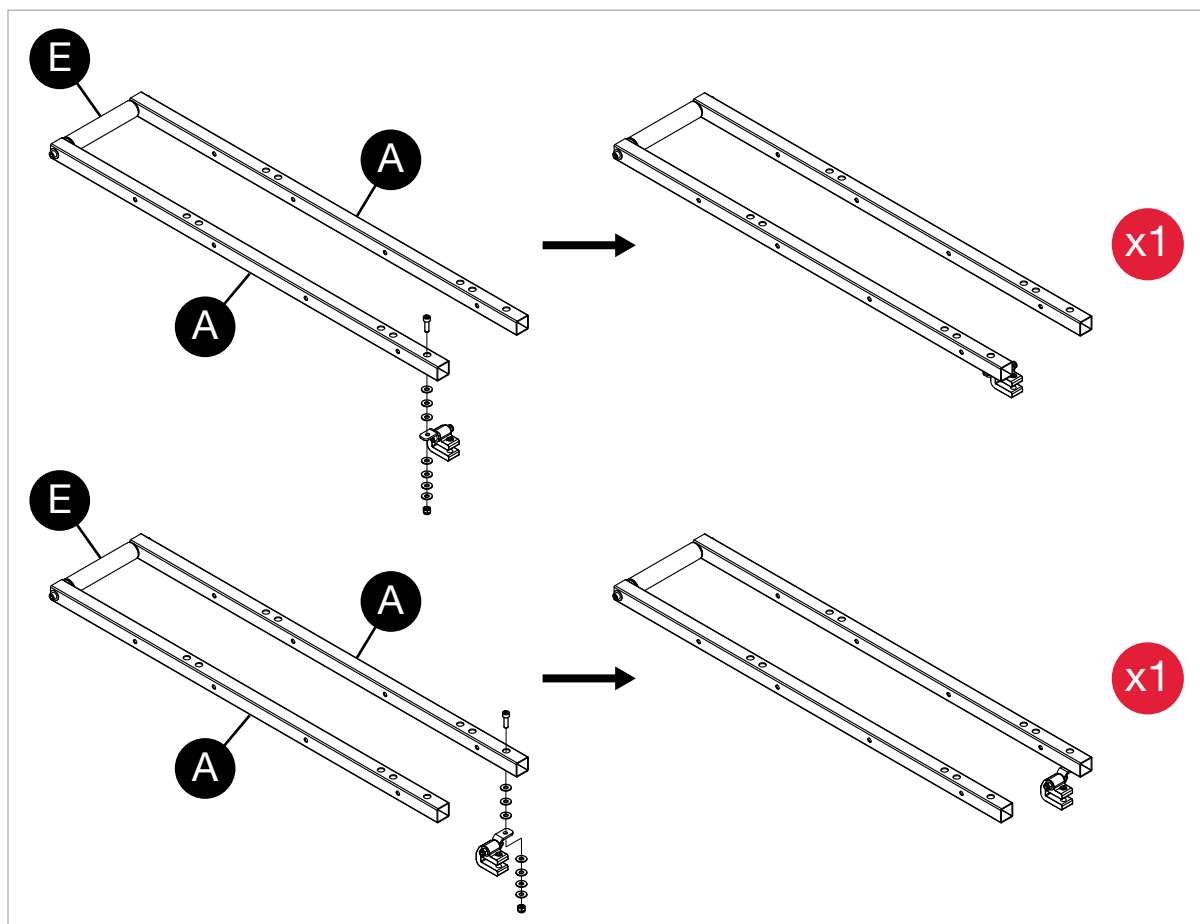

Fig. 13
Position one of the two remaining rear rail clamps between one of the sets of table tubes (A) attached to a small table roller (E), so the rear rail clamp is between the table tubes, the clamp mounting bracket extends under one of the table tubes, and the open end of the clamp extends away from the small table roller (see Fig. 13 for reference).
Repeat this process with the last rear rail clamp and set of table tubes attached to the remaining small table roller. The two assemblies with the small table rollers should be mirror images of one another. One should have the rear rail clamp on the left table tube (from the perspective of a user of the table saw), and the other should have the rear rail clamp on the right table tube (see Fig. 13 for reference).